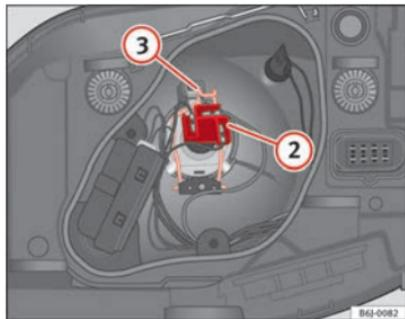

Fig. 146 Dipped beam/
- Remove the connector ⇒ fig. 146 ② from the bulb.
- Unclip the retainer spring ⇒ fig. 146 ③ pressing inwards to the right.